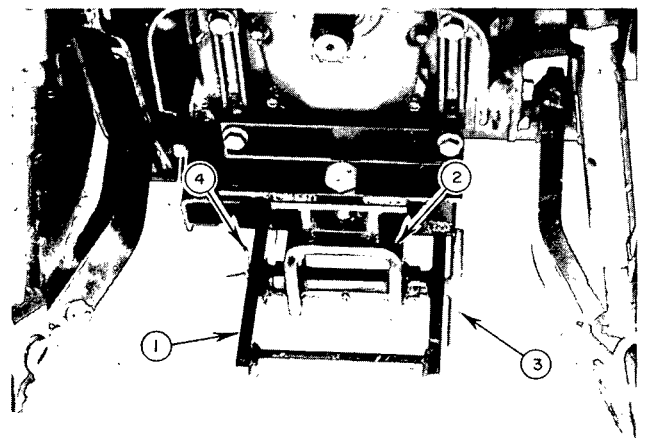

FIGURE 12
- g) Attach rear section of subframe (fig.12, item 1) to the rear hitch plate (fig.12, item 2) using the  $\frac{3}{4}$ " x  $8 \frac{7}{8}$ " pin (fig.12, item 3). Lock the pin with a 4mm x 80mm hair pin (fig.12, item 4).
- h) Tighten bolts on support brackets and rear hitch bracket, according to Torque Specification Table on page 71. Then tighten all bolts on the subframe according to the Torque Table. Make sure the  $8 \frac{7}{8}$ " pin (fig.12, item 3) can be removed easily. If it does not move easily, re-adjust the front attaching brackets.